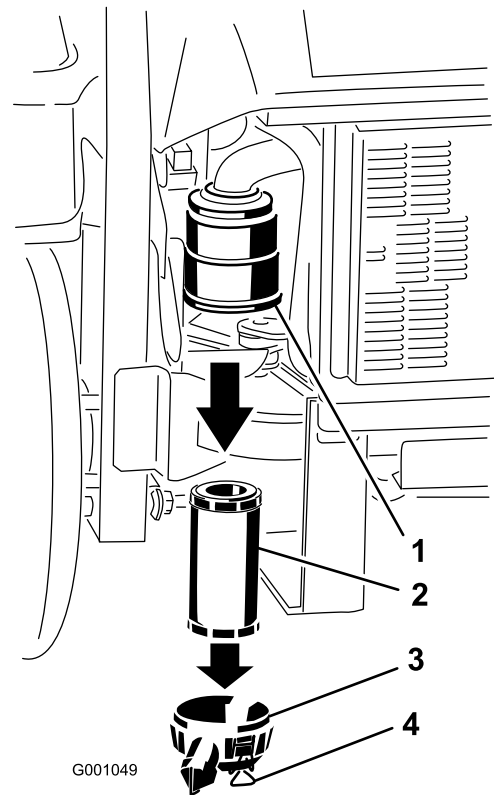

Figure 39
3. Release the latches on the air cleaner and pull the air cleaner cover off of the air cleaner body (Figure 39).
5. Gently slide the filter out of the air cleaner body (Figure 39). Avoid knocking the filter into the side of the body.